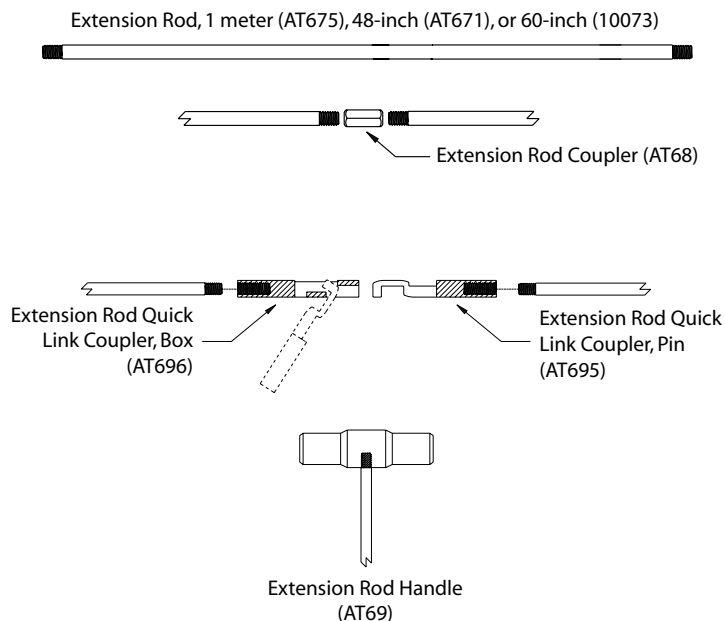

FIGURE 5.8
- c) If the risers continue to move up with the probe rods and cannot be held in place by hand, sand heave has most likely caused the screen to bind to the inside of the rods. Extension rods are now required. (Refer to Figure 5.8 for an illustration of extension rod accessories.)